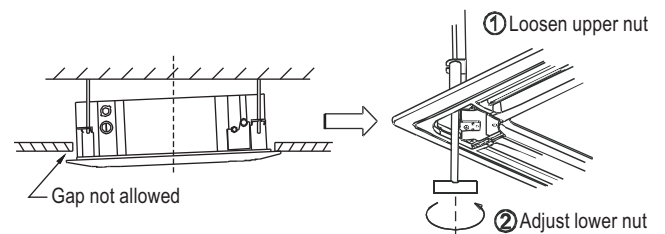

Fig.1-13
- If the gap between the panel and ceiling still exists after fastening the screws, the height of the indoor unit should be modified again.(Refer to Fig.1-13-left)
- You can modify the height of the indoor unit through the openings on the panel's four corners, if the lift of the indoor unit and the drainpipe is not influenced (Refer to Fig.1-13-right).